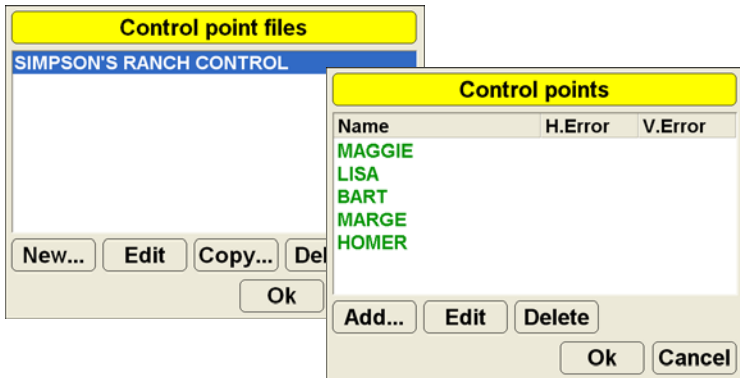

Figure 4-12. Control Point Files Dialog Box
2. Press **Topcon Logo ▶ File ▶ Control Points**. The *Control point files* dialog box displays (Figure 4-12).
3. On the *Control point files* dialog box, select the correct control points file, and press **Edit**. The *Control points* dialog box displays, listing all control points for the file and jobsite (Figure 4-12).